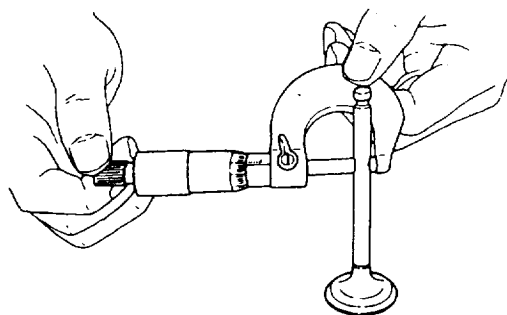

Figure 6-37 Valve stem
- 1) Check the valve stem for wear and distortion and replace if necessary. Do not confuse the intake and exhaust valve stems (see Figure 6-37).